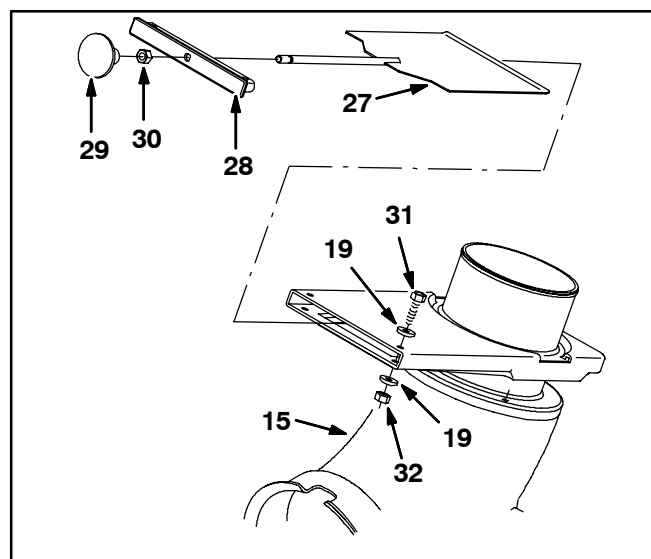

FIG. 7
7. Install the valve seal (28) onto the slide plate (27). Refer to Fig. 7.
8. Install the jam nut (30) and push-pull knob (29) onto the slide plate (27). Hand tighten. Refer to Fig. 7.
9. Install items assembled in the previous two steps into the upper wand tube (15). Install two hex screws (31), eight washers (19), and two hex nuts (32) to hold the assembly into the upper wand tube. Hand tighten hardware. Refer to Fig. 7.